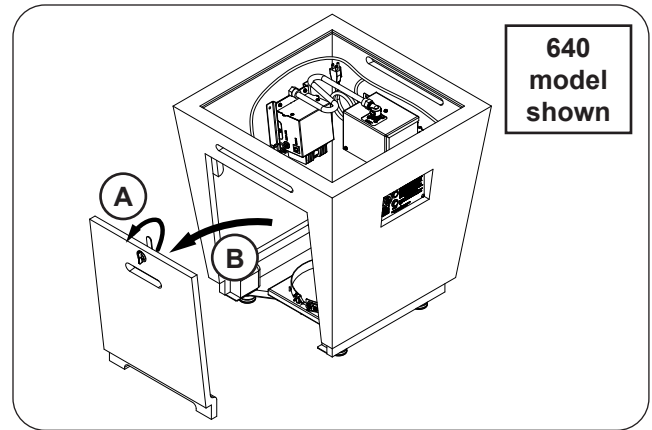

Fig. 36-1 Place base and remove door
1. **Carefully** remove the burner assembly from the base, then **carefully** place the base in an appropriate location (see Fig. 36-1, and refer back to the LOCATION section if needed).
2. Remove the storage door by first turning the door handle counter-clockwise, then carefully pulling the door outward (see Fig. 36-1). Store in a safe location.